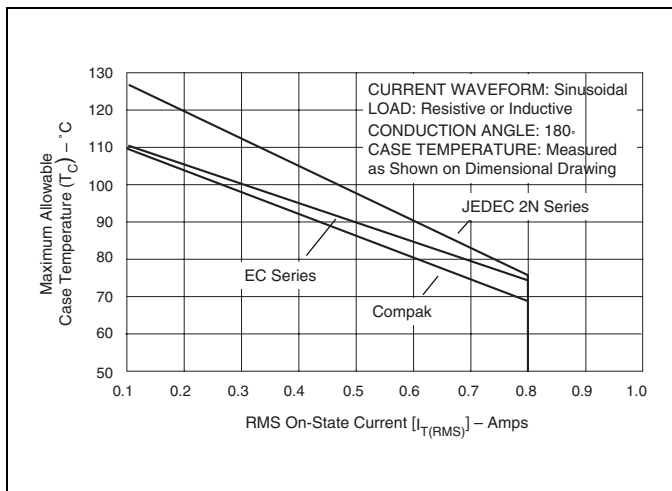
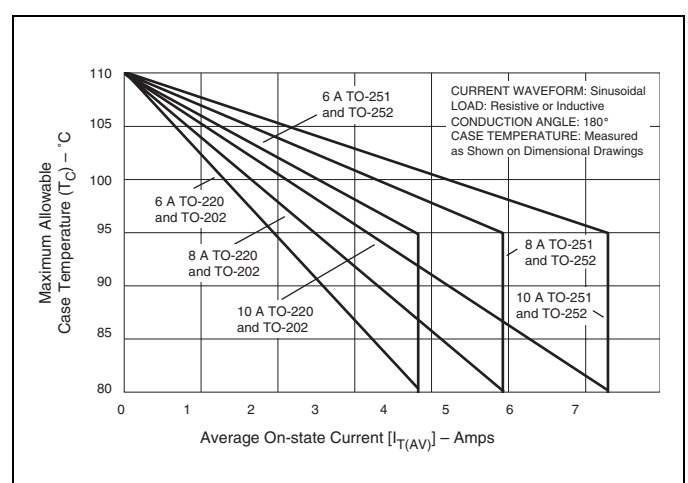
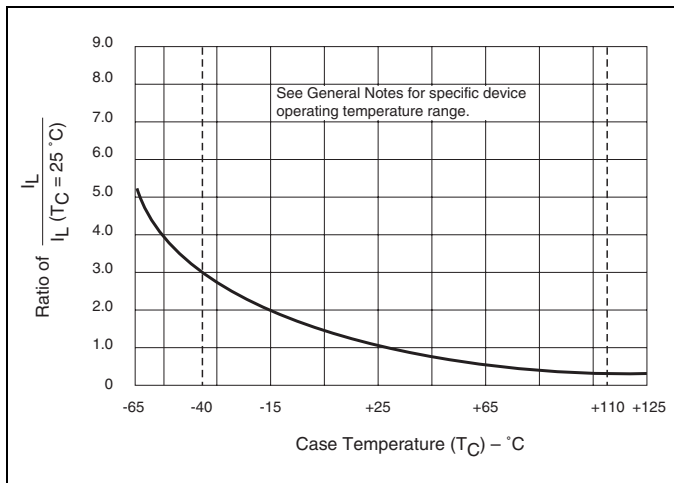

Figure E5.1 Maximum Allowable Case Temperature versus RMS On-state Current
Figure E5.9 Maximum Allowable Case Temperature versus Average On-state Current
Figure E5.18 Normalized DC Latching Current versus Case Temperature
- (1) See Figure E5.1 through Figure E5.9 for current ratings at specified operating temperatures.
- (13) See Figure E5.1 through Figure E5.9 for maximum allowable case temperature at maximum rated current.
- (14) IGT = 500 μA maximum at TC = -40 °C for T106 devices
- (15) IH = 10 mA maximum at TC = -65 °C for 2N5064 Series and 2N6565 Series devices
- (16) IH = 6 mA maximum at TC = -40 °C for T106 devices
- (17) Pulse Width ≤ 10 μs
- (18) IGT = 350 μA maximum at TC = -65 °C for 2N5064 Series and 2N6565 Series devices
- (19) Latching current can be higher than 20 mA for higher IGT types. Also, latching current can be much higher at -40 °C. See Figure E5.18.
- (20) TC or TL = TJ for test conditions in off state
- (21) IDRM and IRRM = 50 μA for 2N5064 and 100 μA for 2N6565 at 125 °C
- (22) TO-92 devices specified at -65 °C instead of -40 °C
- (23) TC = 110 °C